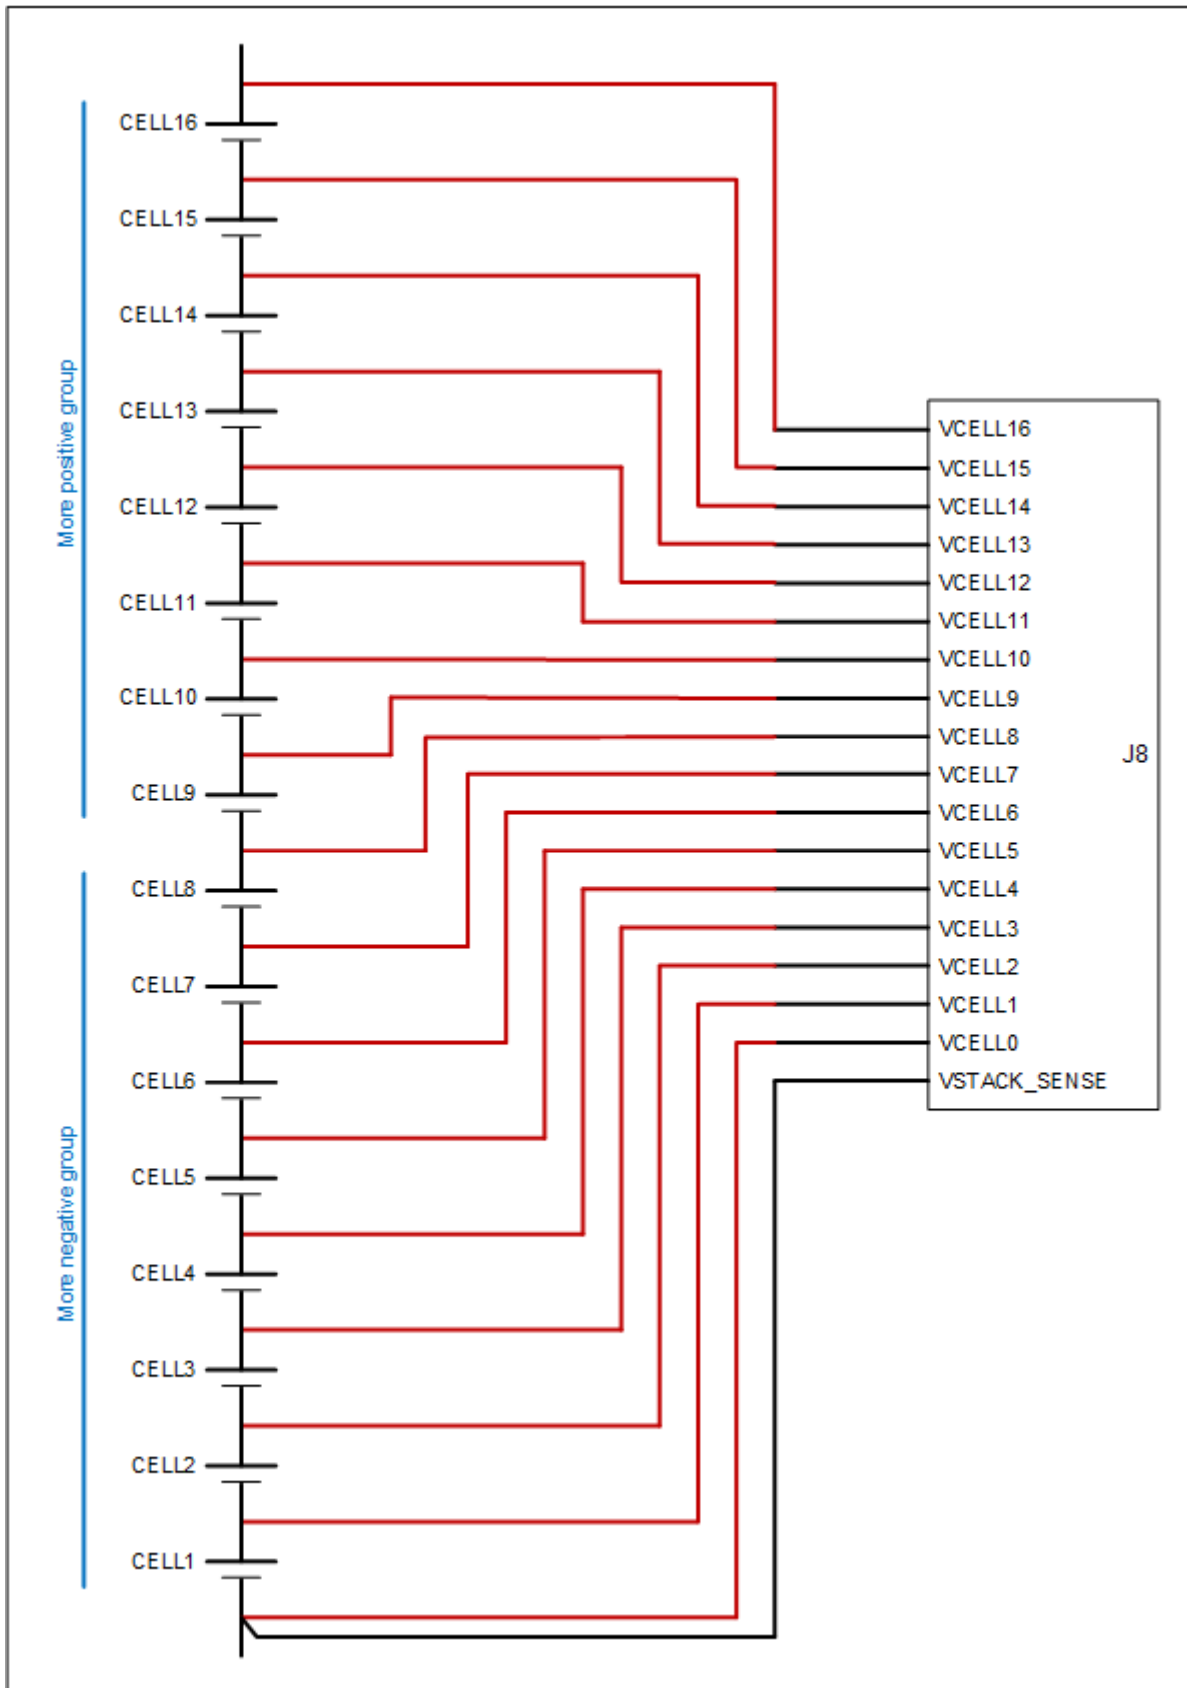
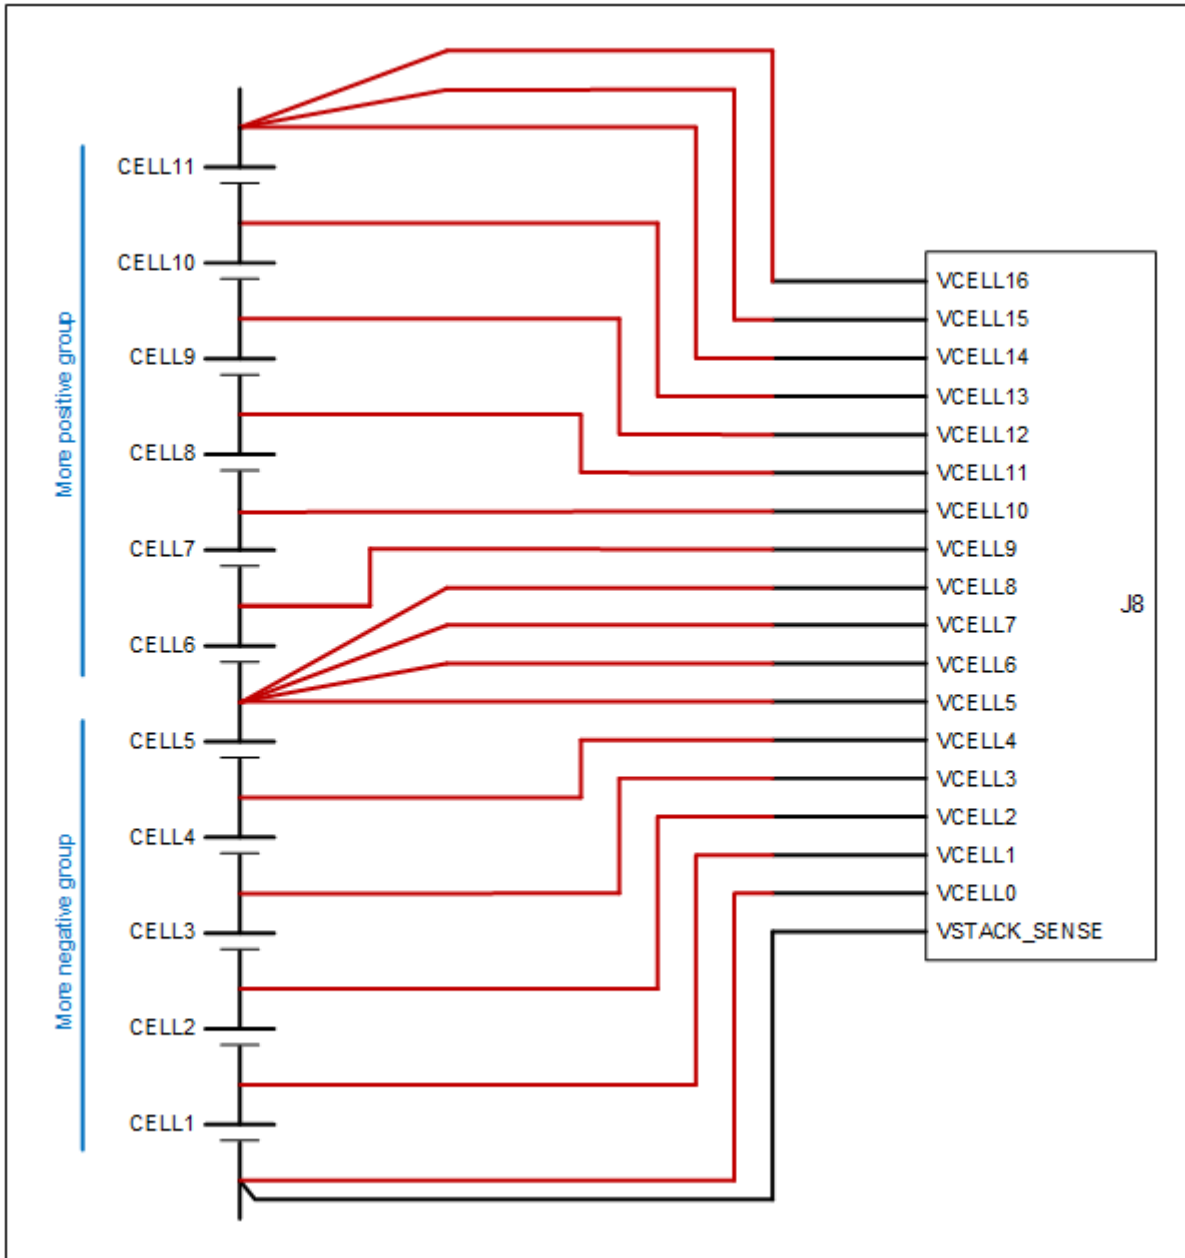
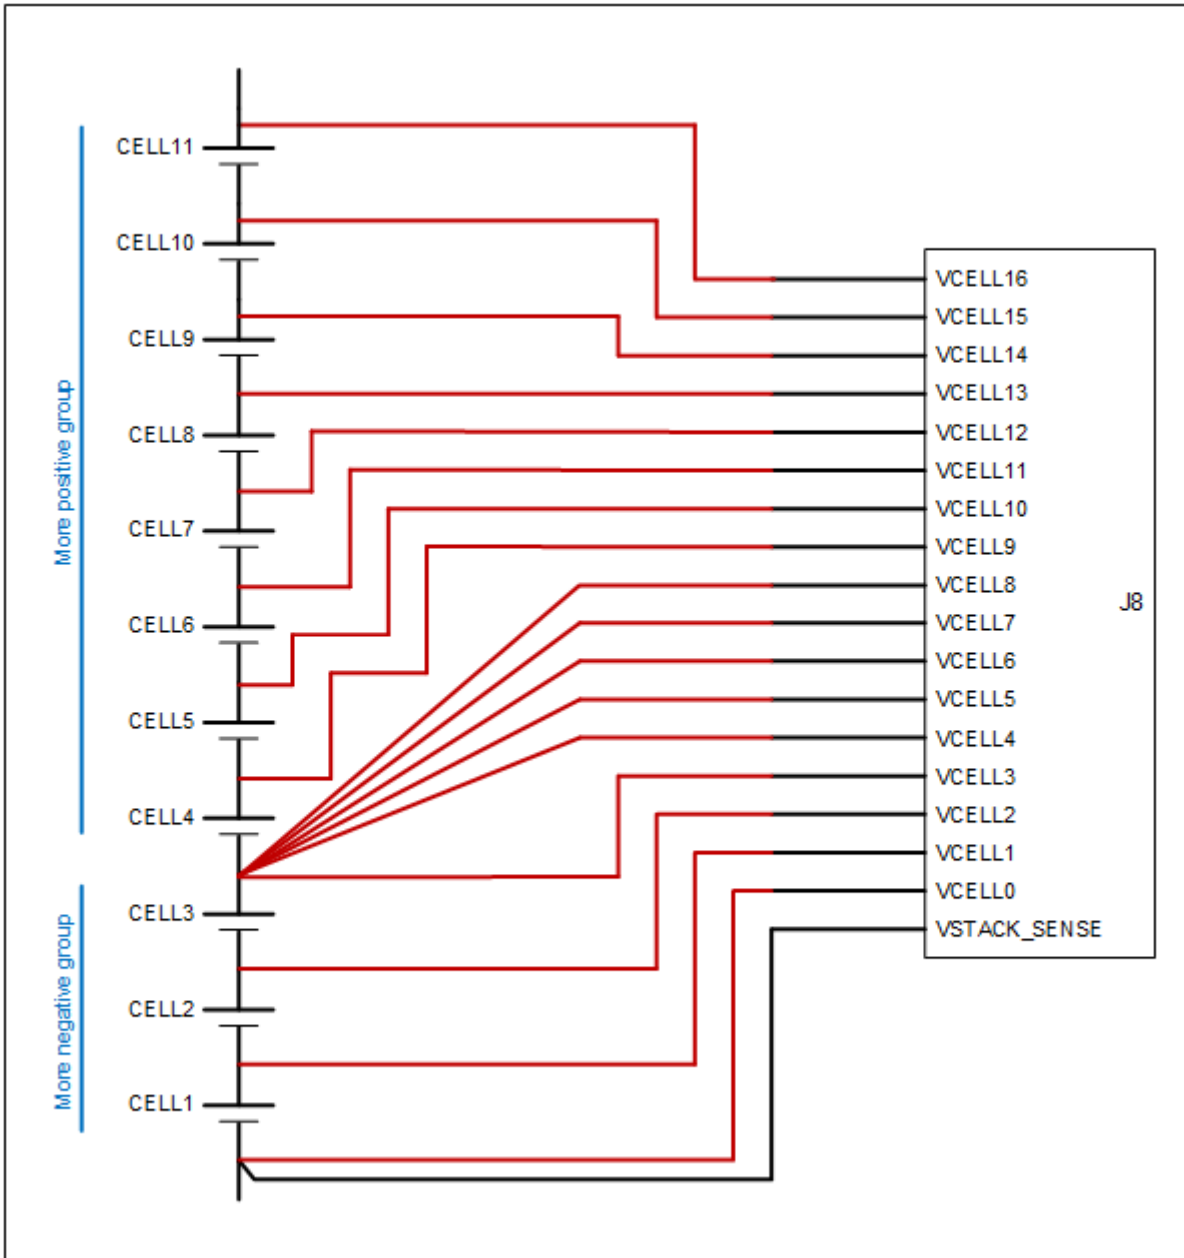

Figure 9. NUV300-BC-16: Connecting 16 cells to J8
Figure 10. NUV300-BC-16: Preferred method of connecting 11 cells to J8
Figure 11. NUV300-BC-16: Less optimal method of connecting 11 cells to J8
**NUV300-BC-16:** Connected cells are monitored internally by two functional blocks, each measuring eight cells (C0 to C8 and C8 to C16). Each functional block requires a minimum of 11V across it to operate and measure its input voltages. The total voltage across the stack can be up to 60V. See Figure 9, Figure 10 and Figure 11 for examples of how to connect cells to the NUV300-BC-12.
Figure 9 shows the connection of 16 cells to a NUV300-BC-12 controller. It is recommended to use a NUV300-BC-12 for an 11-cell stack, but if a NUV300-BC-16 must be used, an example of the correct connection of 11 cells to a NUV300-BC-16 is presented in Figure 10. A less desirable connection example is shown in Figure 11 which assumes 3 cells are sufficient to provide the required 11V minimum to the lower group.